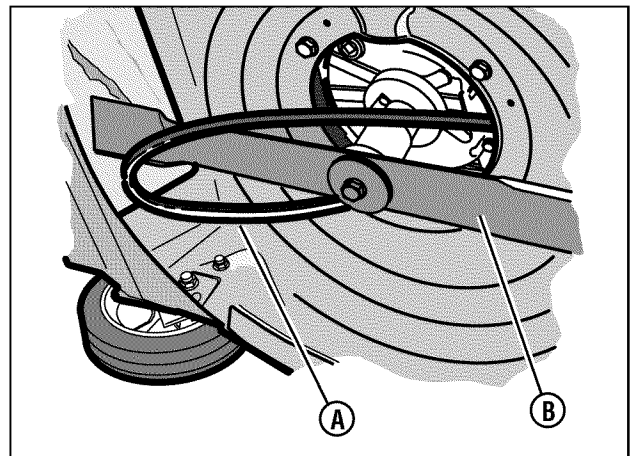

Figure 21: Removing the belt
4. Remove the front of the drive belt (B) from the transmission pulley (C).
5. To remove the rear of the drive belt (A, Figure 21), slip the drive belt over the end of the blade (B).